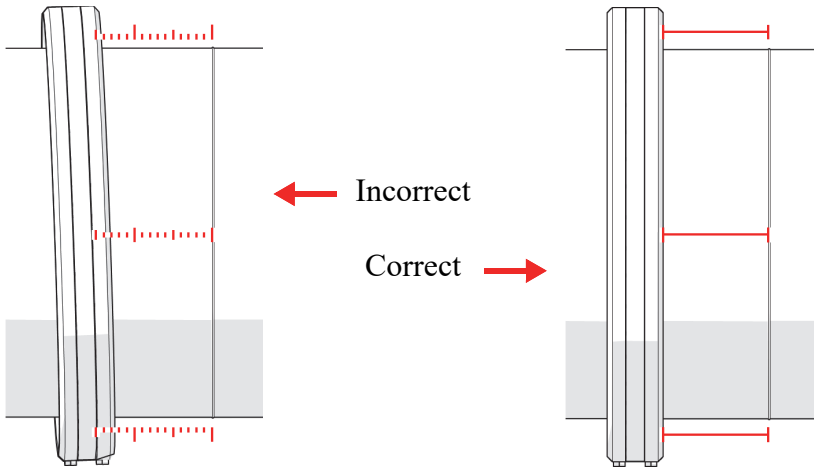

Figure 1-22 Align the band with the weld
5. Align the band as needed, taking measurements around the pipe between the weld and the band, to ensure the band is parallel to the weld (see Figure 1-22 on page 40).